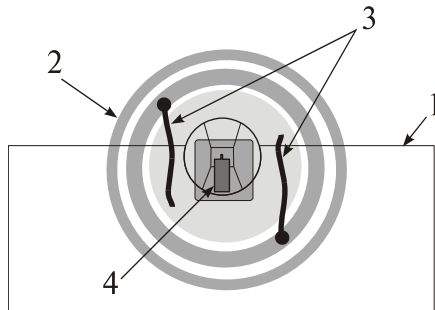
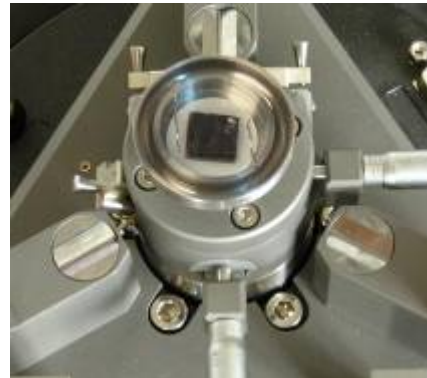

Fig. 2-15. Relative position of the measuring insert and the clips
Fig. 2-16. The cell installed on the sample holder
3. Fix the cell with the sample on the scanner sample holder so that after the measuring head has been installed the clips are at the right angle to the longest side of the measuring insert (Fig. 2-15 and Fig. 2-16):